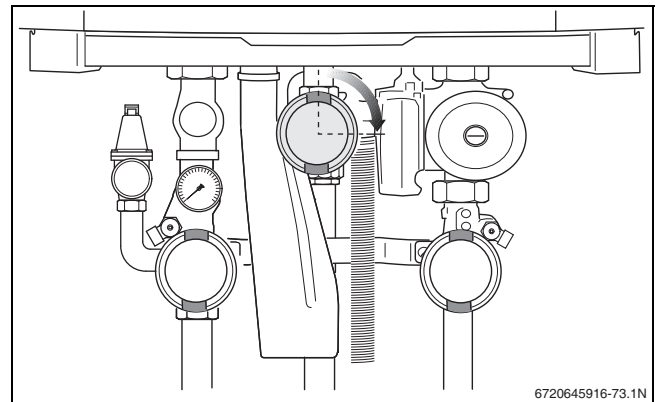

Fig. 76 Closing the gas valve
- Close the main gas supply or the gas valve (→ fig. 76).